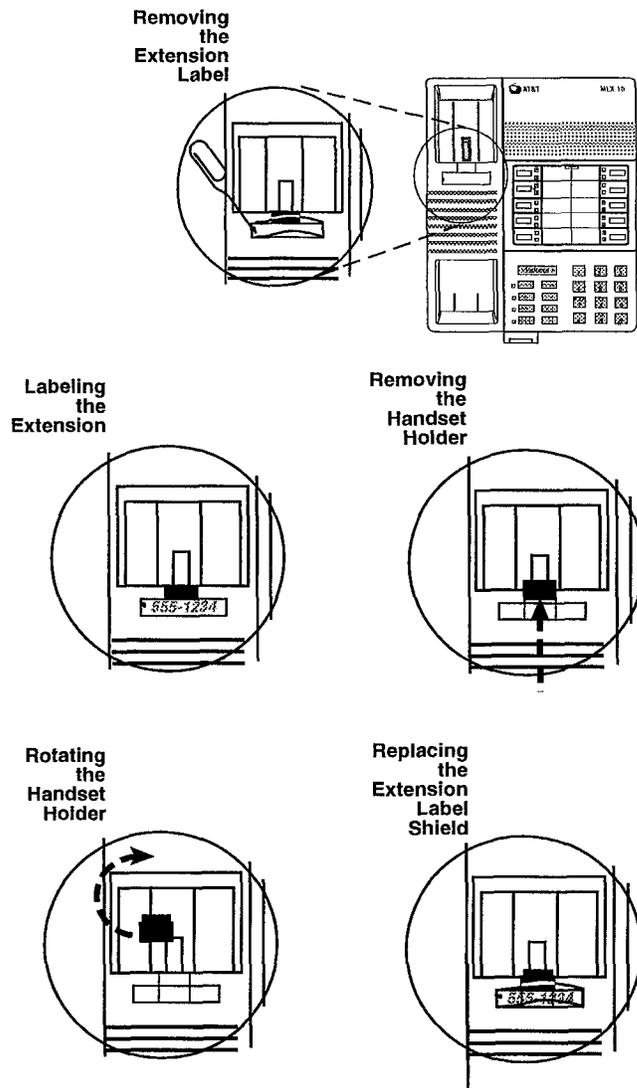

Figure 3-53. Labeling the Extension Identification Card
4. Label the extension identification card (see Figure 3-53).
5. Prepare the handset holder for wall mounting (see Figure 3-53).